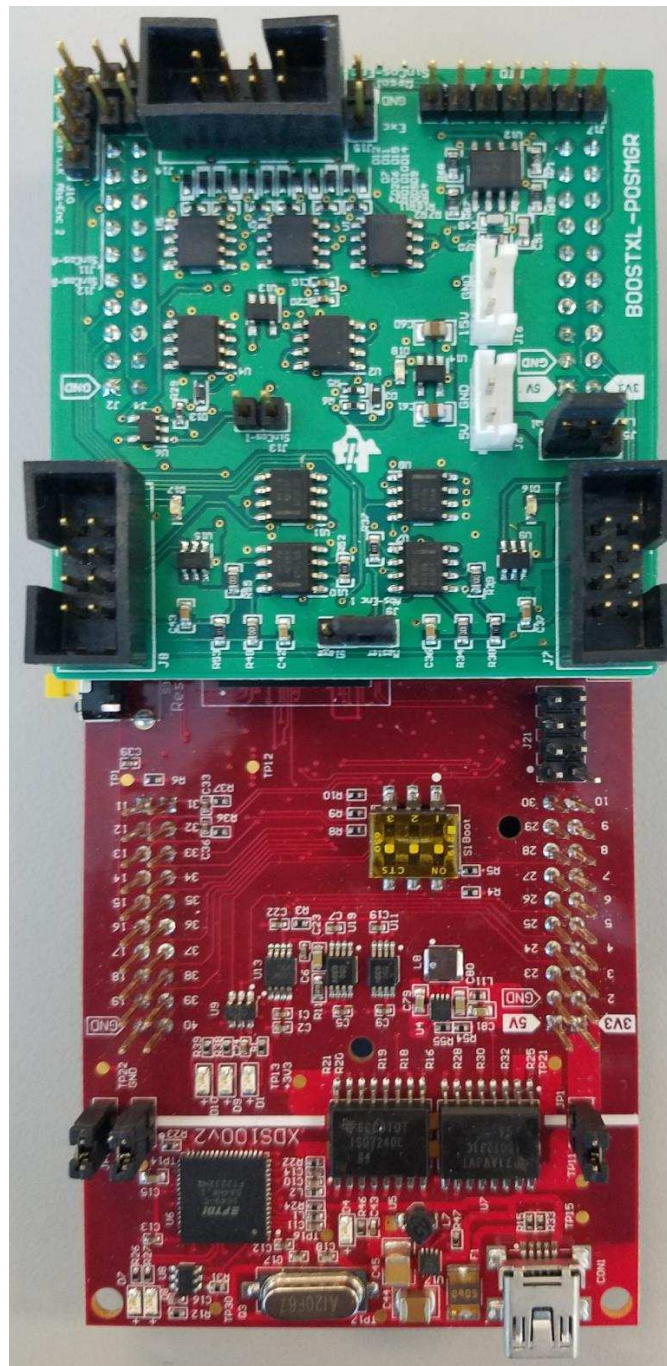

Figure 10. TIDM-1010 Board Connected to Site Two of LaunchPad™
2. Connect the TIDM-1010 device to the LaunchPad using the BoosterPack connector (J1, J3 and J4, J2). Ensure the TIDM-1010 device is connected to site two of the LaunchPad, as shown in Figure 10.